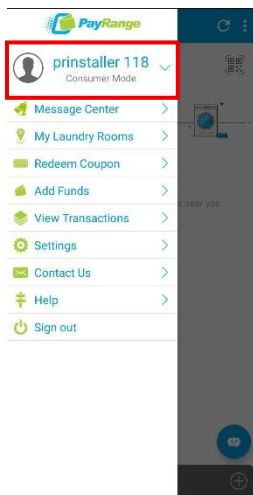

Figure 5
- Tap inside the **red boxed** area seen in **Figure 5**.